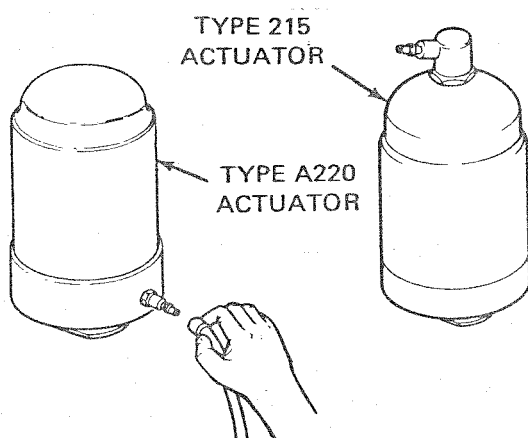

Figure 2. Applying Air to Actuator
2. Apply air to actuator. See Figure 2.